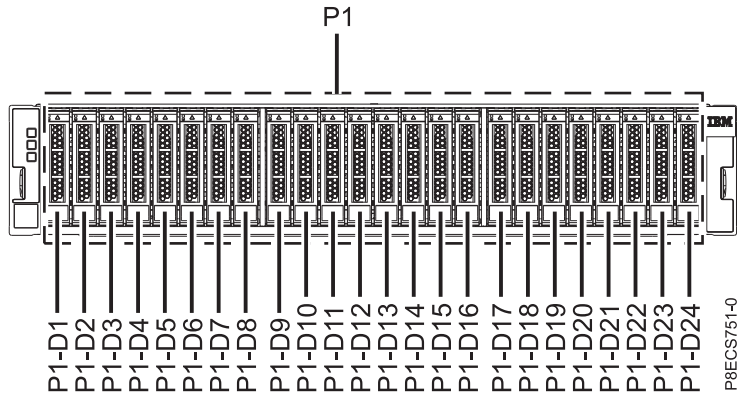
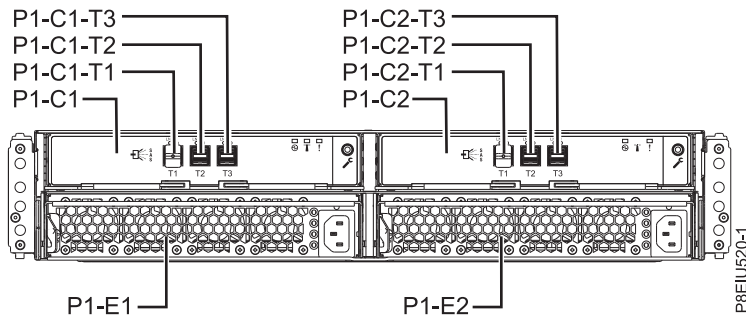
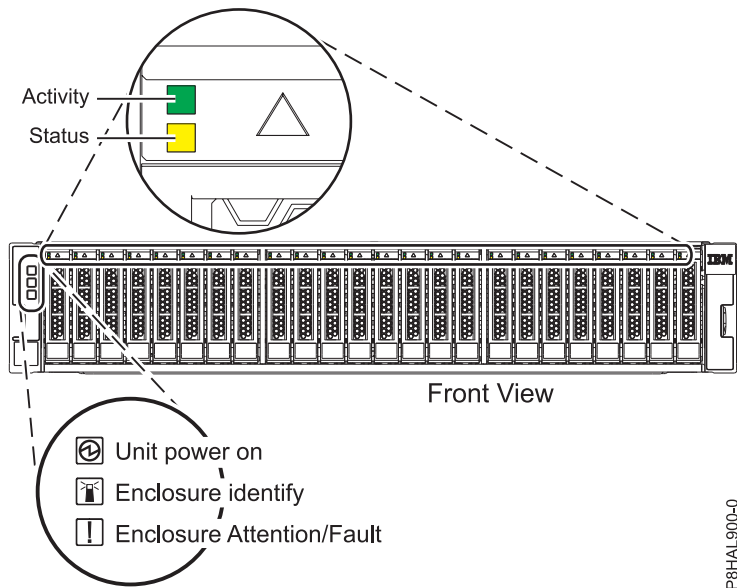

Figure 11. Front view of the ESLS storage enclosure showing the drive locations
Figure 12. Rear view of the storage enclosure
Figure 13. Front view of the storage enclosure showing the service indicators
1. Identify the part and the enclosure that you want to service. The disk drive and SSD slots are located in the front of the enclosure. Figure 11 on page 11 shows the front of the ESLS storage enclosure, Figure 12 on page 11 shows the rear view of the storage enclosure, and Figure 13 on page 11 shows the locations of the service indicators for the enclosure.